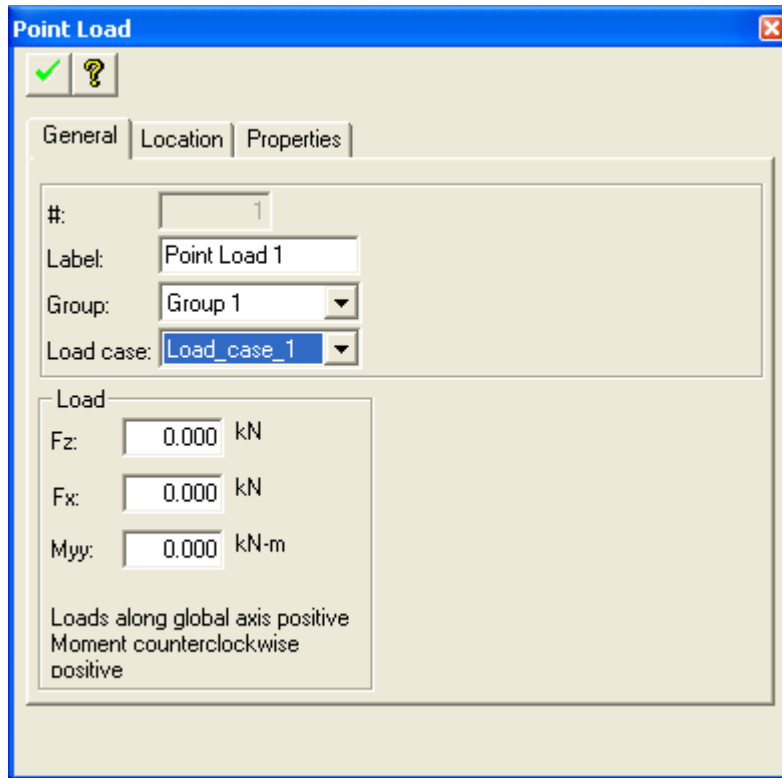

FIGURE 2.20-1 POINT LOAD DIALOG BOX
**Create Point Load.** This tool inserts a new point load or moment with the properties shown in **Fig. 2.20-1** . To create a point load do the following.